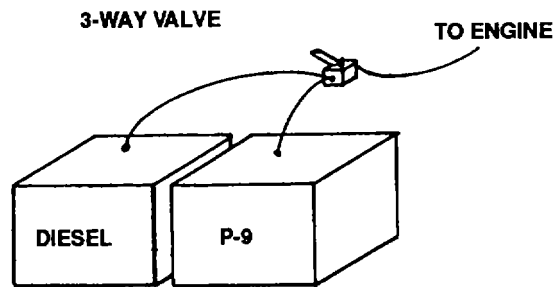

Figure 5-89. Two-Chamber Fuel Source
- k. Connect a two-chamber fuel source to the auxiliary fuel connection; one chamber to be filled with diesel, the other to be filled with preservative P-9. See figure 5-89.